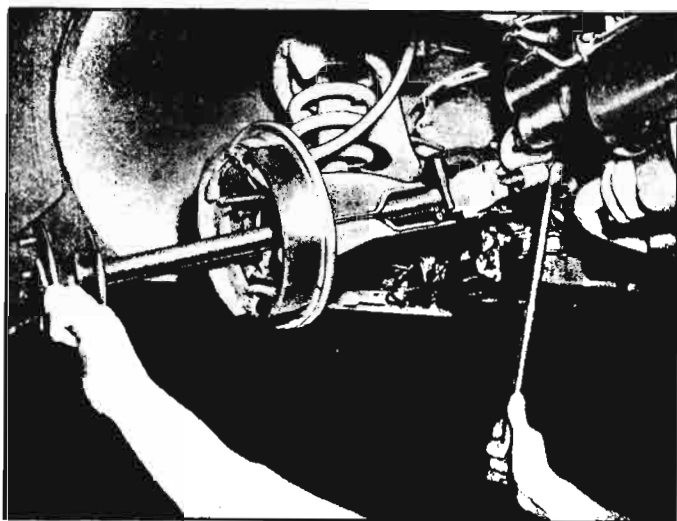

Fig. 6C-6—Removing U-Joint Yoke with J-5504
6. Remove the yoke from the axle shaft using J-5504 as illustrated (fig. 6C-6), then remove the axle shaft from the lower control arm.